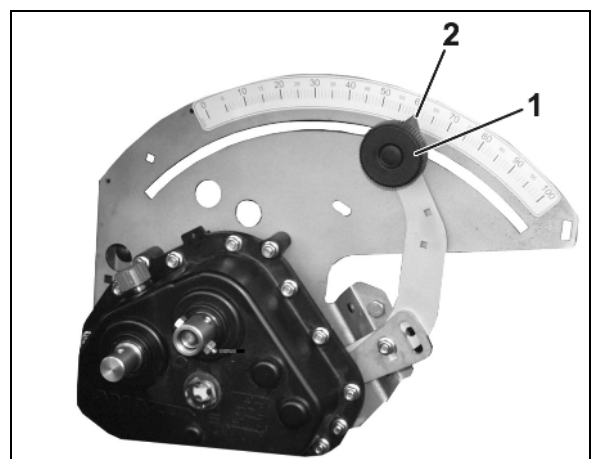

Fig. 89
2. Undo the butterfly nut (Fig. 89/2).
3. Adjust the height of the level sensor (Fig. 89/1) to the required seed volume.
4. Tighten the butterfly nut (Fig. 89/2).
Only assemble the level sensor as shown in figure (Fig. 89).